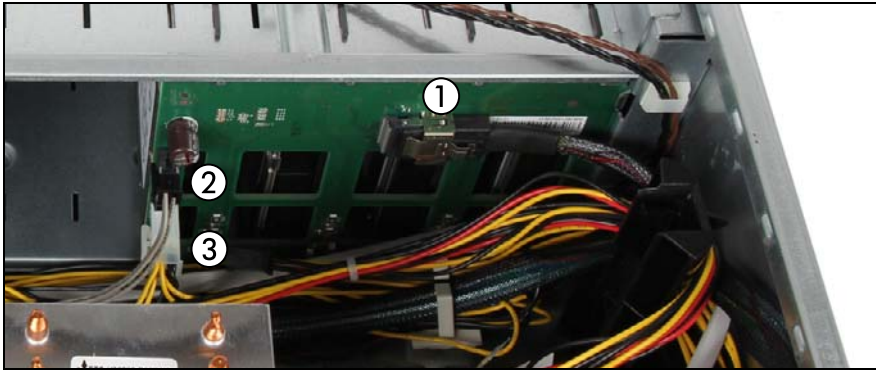

Figure 88: Disconnecting cables
- ▶ Connect the cables to the SAS backplane (see figure 88).